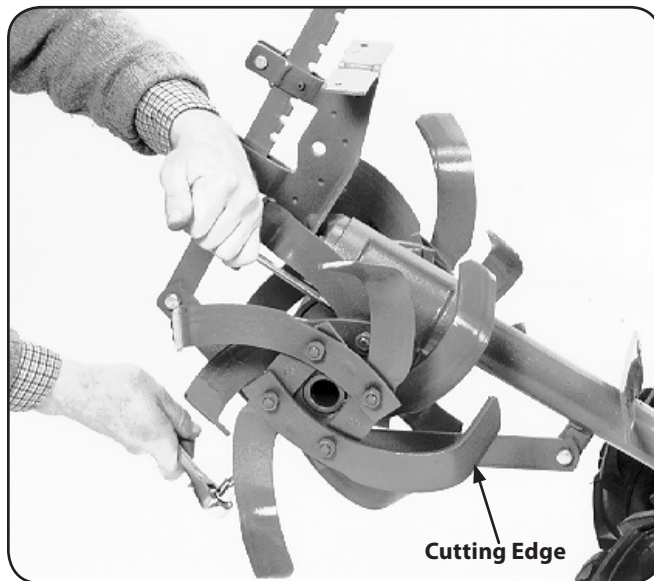

**Figure 7-9**
1. Remove the two screws and nuts that attach a single tine to the tine holder. If needed, use penetrating oil to help free the nuts. See Fig. 7-9.